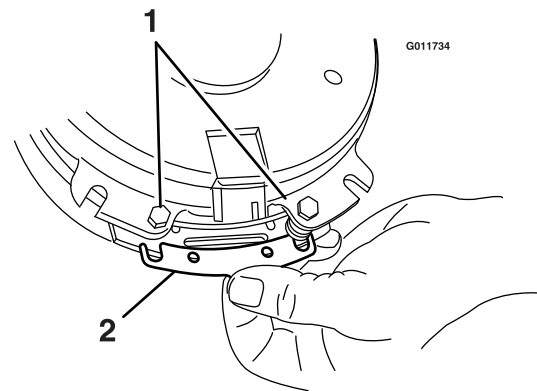

Figure 33
- A. Loosen both brake mounting bolts one-half to one full turn (see Figure 33).